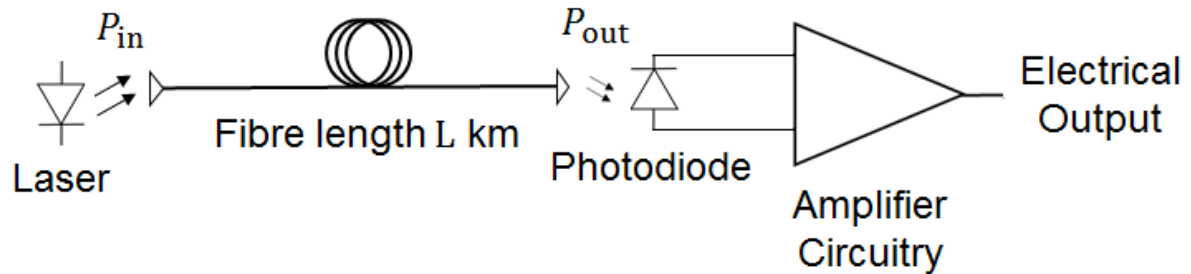

Figure 1.1
Figure 1.1 shows a schematic of a simple optical fibre transmission system using on-off keying.
- (b) Further to part (a), the laser in Figure 1.1 delivers $P_{in} = 5 \text{ mW}$ into the fibre with negligible coupling loss. Calculate the propagation loss in dB per km when $L = 200 \text{ km}$. (3 marks)
- (c) The photodiode in Figure 1.1 has a quantum efficiency of 0.6. Show that the mean photocurrent that results from P_{out} in part (a) is 150 nA at a wavelength of 1550 nm . (3 marks)
- (d) Show that the bit error rate (BER) of the system in Figure 1.1 at a temperature of 300 K for the photocurrent in part (c) when thermal noise dominates the receiver is approximately 10^{-9} . The receiver has a noise equivalent bandwidth of 755 MHz , an effective load resistance of $100 \text{ k}\Omega$ and includes an amplifier with a noise figure of 7 dB . (8 marks)
- (e) The bit rate of the system in Figure 1.1 is 622 Mbps. Calculate the average time between errors and comment on the result.
- (f) The fibre in Figure 1.1 is upgraded to one that has a loss of 0.15 dB per km and a new 1550nm wavelength laser is also used. Find the laser power needed to improve the bit error rate by three orders of magnitude when the receiver properties are unchanged. The SNR required for a given BER may be approximated by the expression: